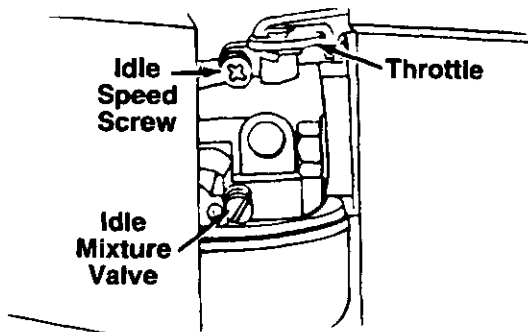

FIGURE 21.
- Close idle mixture valve (see figure 21) clockwise (↻) finger tight only. Forcing may cause damage. Then open 1-1/2 turns counterclockwise (↺).